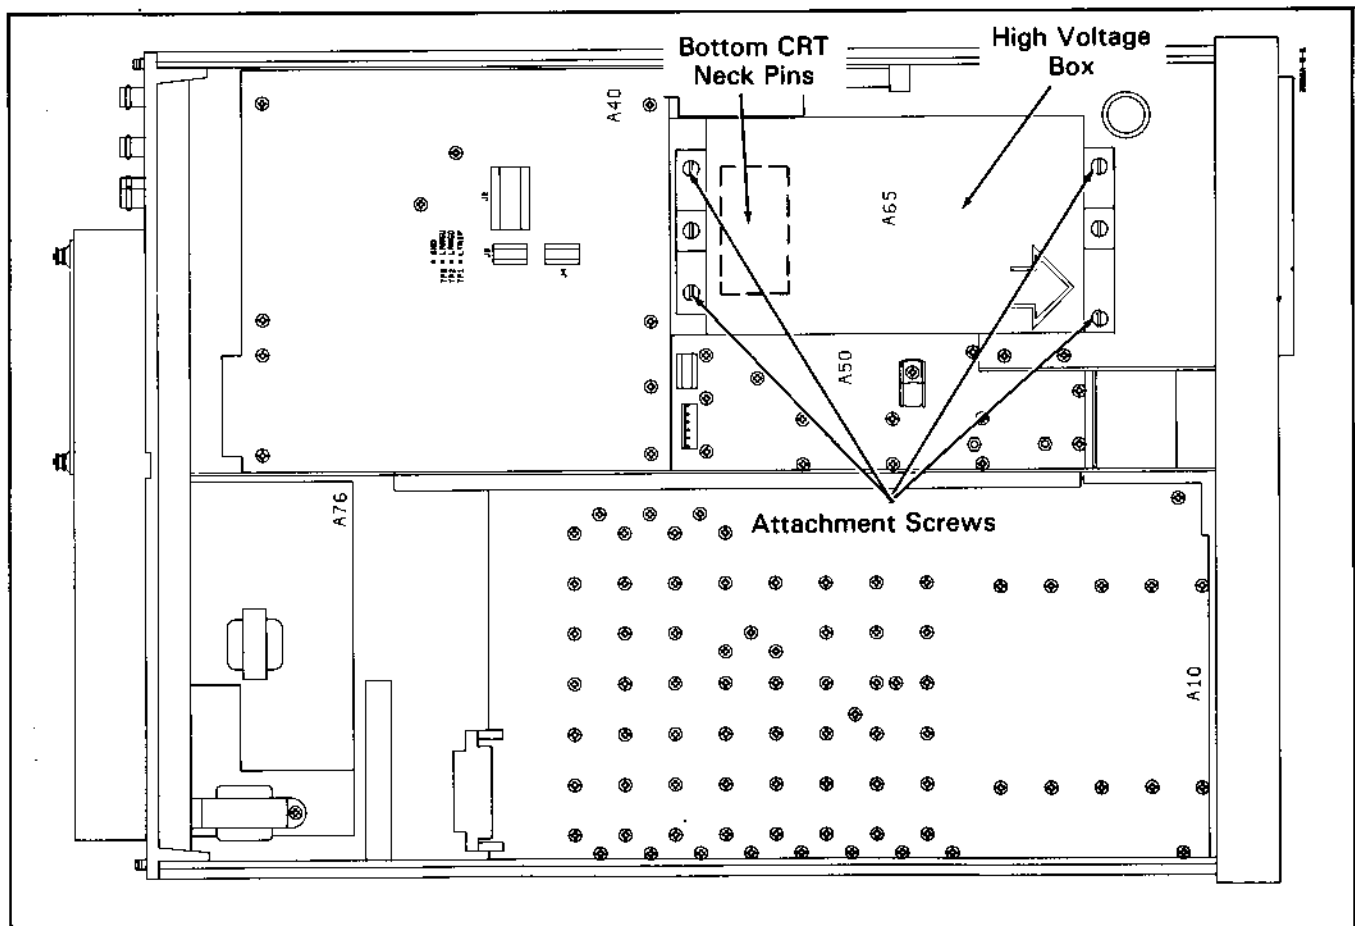

Figure 11-D-4-3. High Voltage Box Removal
- k. Loosen the four screws shown in Figure 11-D-4-2. Swing the High Voltage box away so that the bottom CRT neck pins are exposed.
- n. Remove the protective plastic cover over the A67 board (see Figure 11-D-4-3).